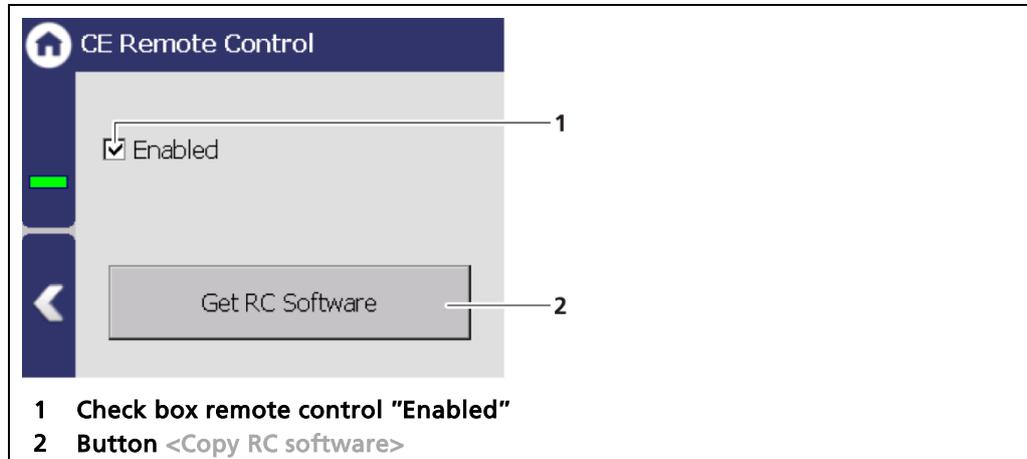

Fig. 53 CE Remote Control
By activating (Fig. 53, item 1) on the CE Remote Control, the EVU can be operated via the network connection. The software of the remote control (RC software) is stored on the device and can be copied to a USB storage device.
- ▶ The USB storage device is recognised by the system after a few seconds and the button <Get RC software> (Fig. 53, item 2) can be clicked.
2. Click on the button <Get RC software> (Fig. 53, item 2).
In order for the Remote Control to function, the selection check mark in the menu "CE Remote Control" must be set to "Active" (Fig. 53, item 1).